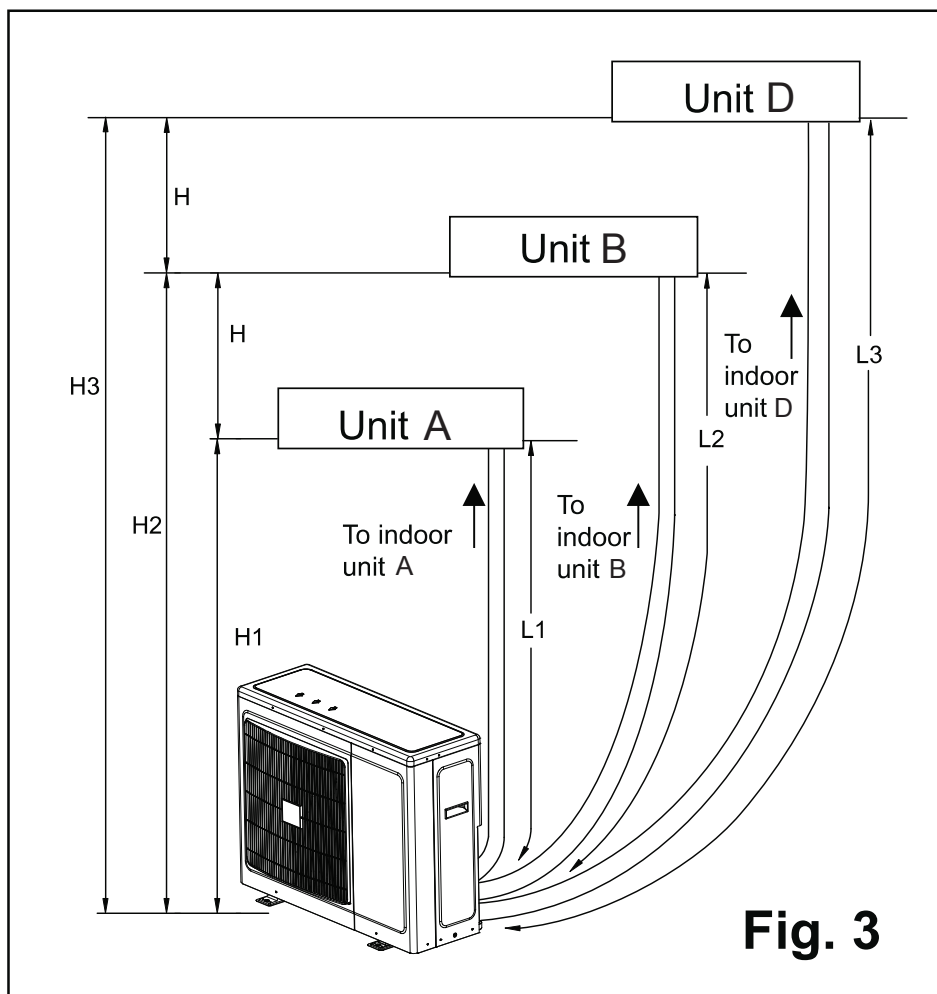

Fig 3 NOTES:
6. Refer to figure 3 for allowed installation distances.